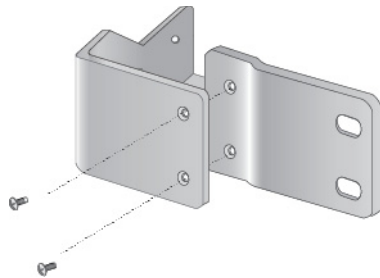

Figure 29. Attaching the Extension to the Bracket
2. Attach the extension to the bracket with the M4x6mm screws using a Phillips-head screw driver as shown in Figure 29.